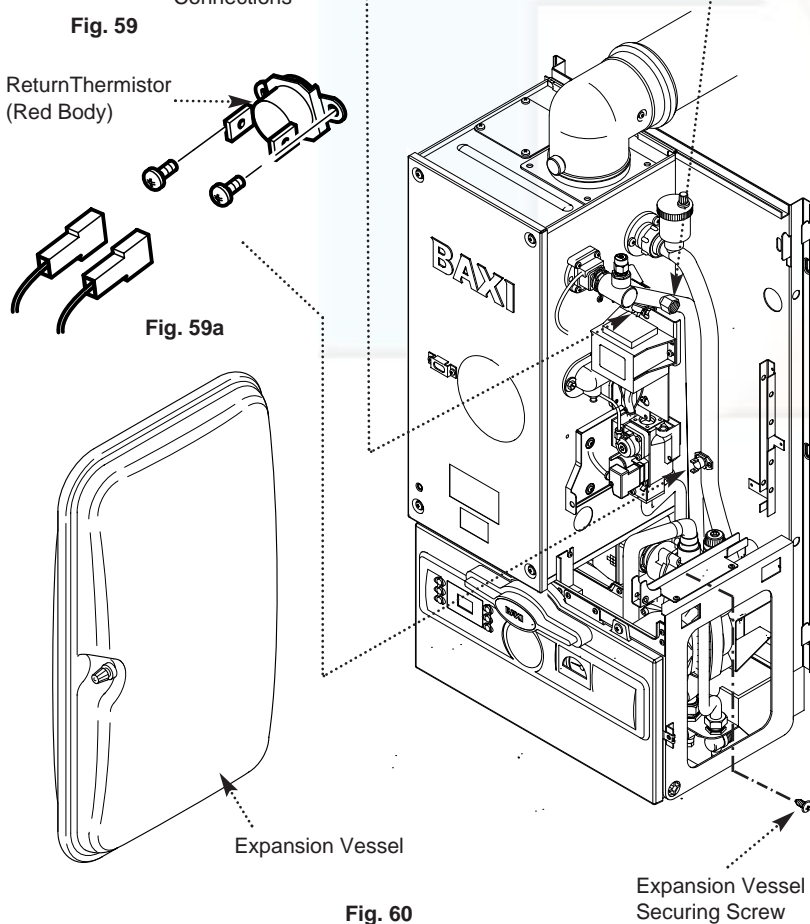

Fig. 60
13.5 Expansion Vessel (Fig. 60)